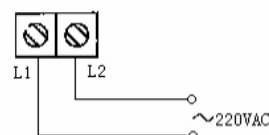

Figure 12. Power line wiring diagram
6.3 Analog output shown in Figure 12